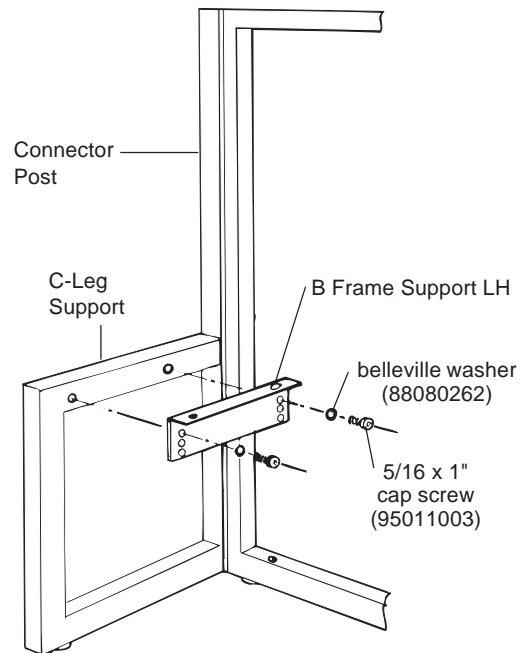

Figure 1
2. Align selected holes in B Support Bracket with the 5/16-18 threaded inserts in B Frame, B Leg or C Leg Support, making sure the teardrop slot in bracket is positioned to the back. (Figure 1)
3. Attach brackets with two (2) bellville washers, placed with concave side against the bracket and two (2) 5/16-18 cap screws provide. **IMPORTANT - DO NOT Tighten screws more than 200 in-lbs.** (Figure 1)